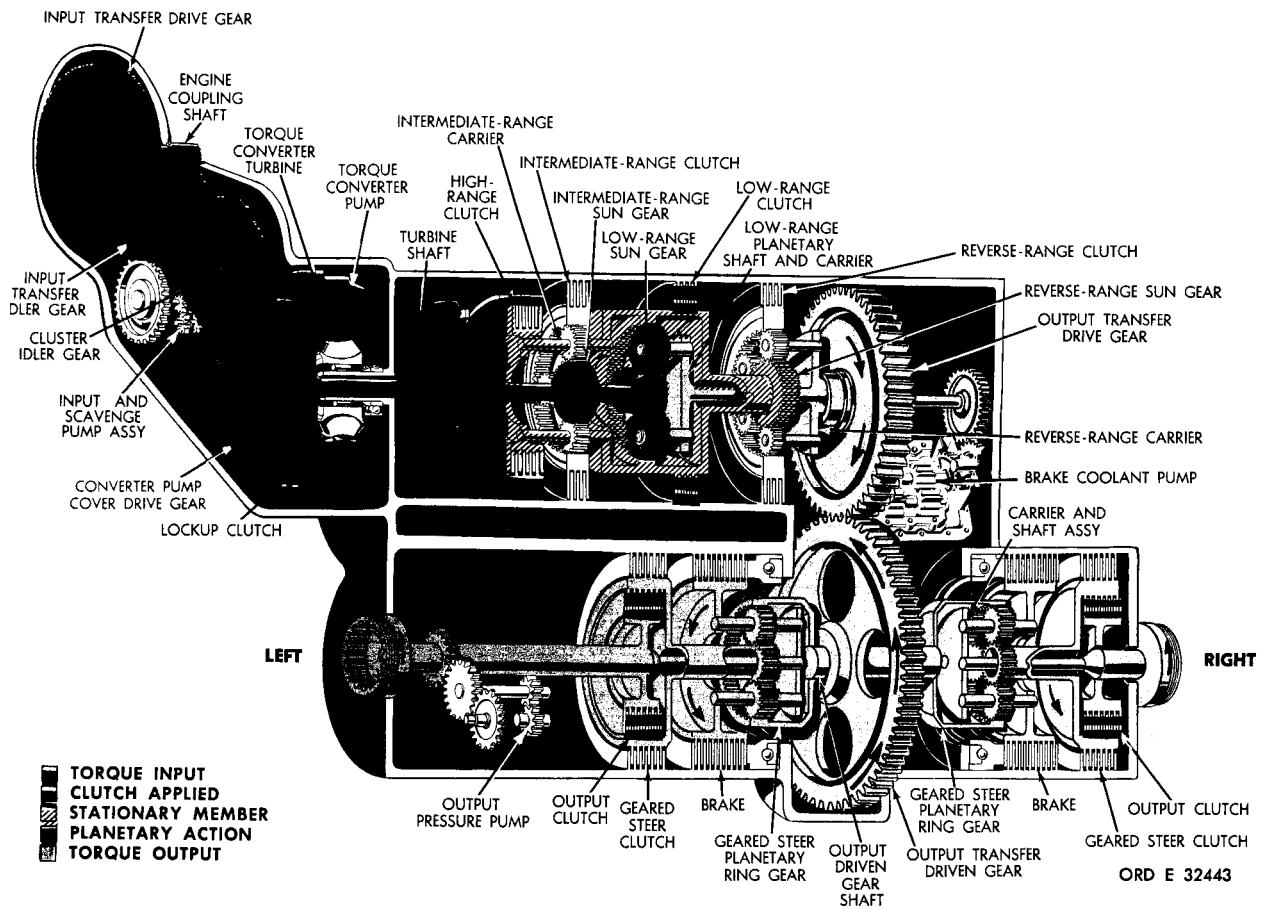

Figure 24. Second-gear torque path, lockup operation
**48. TORQUE PATH - SECOND GEAR, LOCKUP OPERATION (fig. 24)**